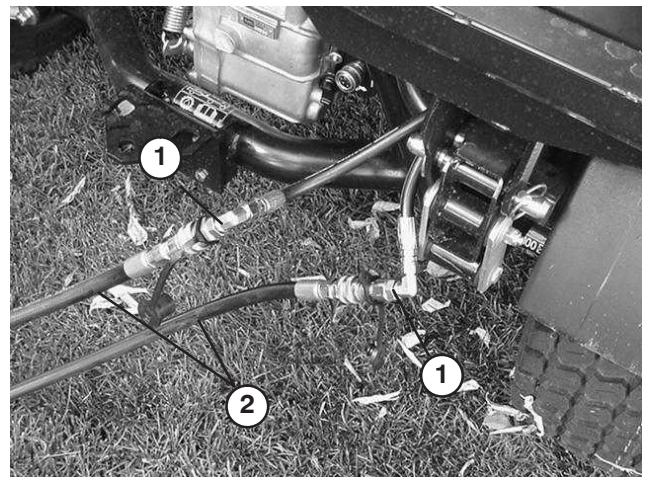

Figure 55
- On the disabled vehicle, connect the two jumper hoses to the hoses that were disconnected (Fig. 55). Cap unused fittings.